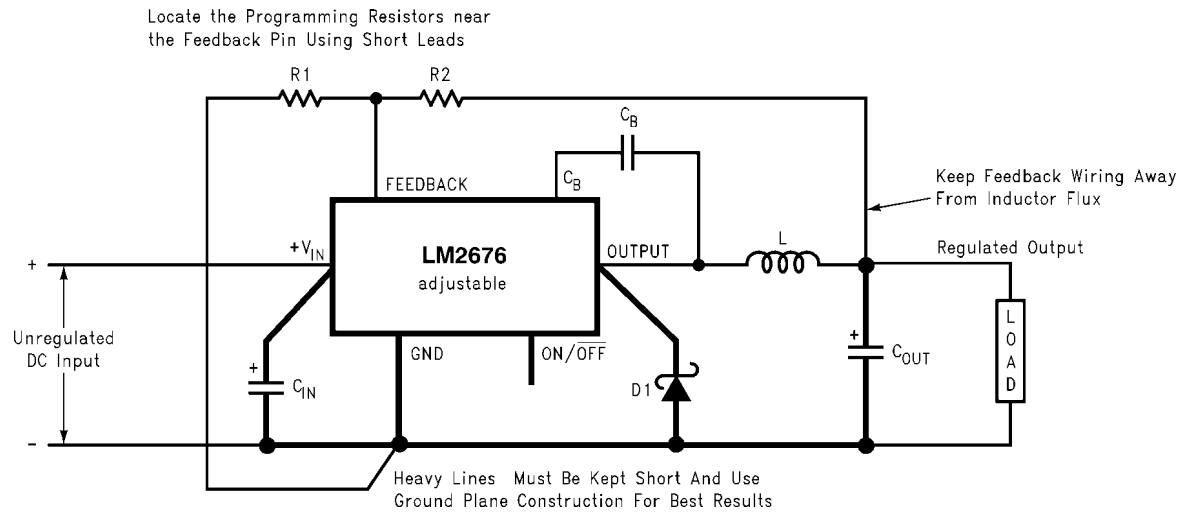

FIGURE 2. Basic circuit for adjustable output voltage applications
Step 2: Select an LM2676S-ADJ. To set the output voltage to 14.9V two resistors need to be chosen (R_1 and R_2 in *Figure 2*). For the adjustable device the output voltage is set by the following relationship: